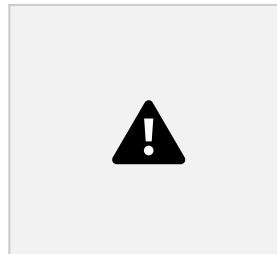

Fig. 6
2. Turn on empty-out pump (Figure 6). The discharge pump will not come on when the "Auto Discharge" switch is turned "ON". Note: the "Auto Discharge" switch must be turned on in order for the discharge pump to evacuate the recovered water. Turn this pump "OFF" when done with job.